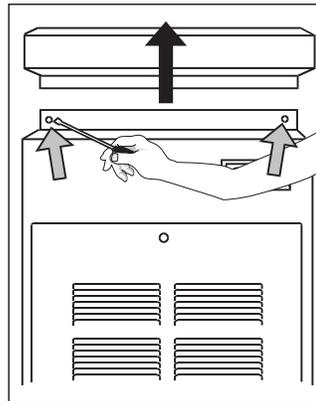

Figure 31. Removal of the Top
2. Remove the top by removing all eight screws connecting it to the jacket (see Fig. 31).